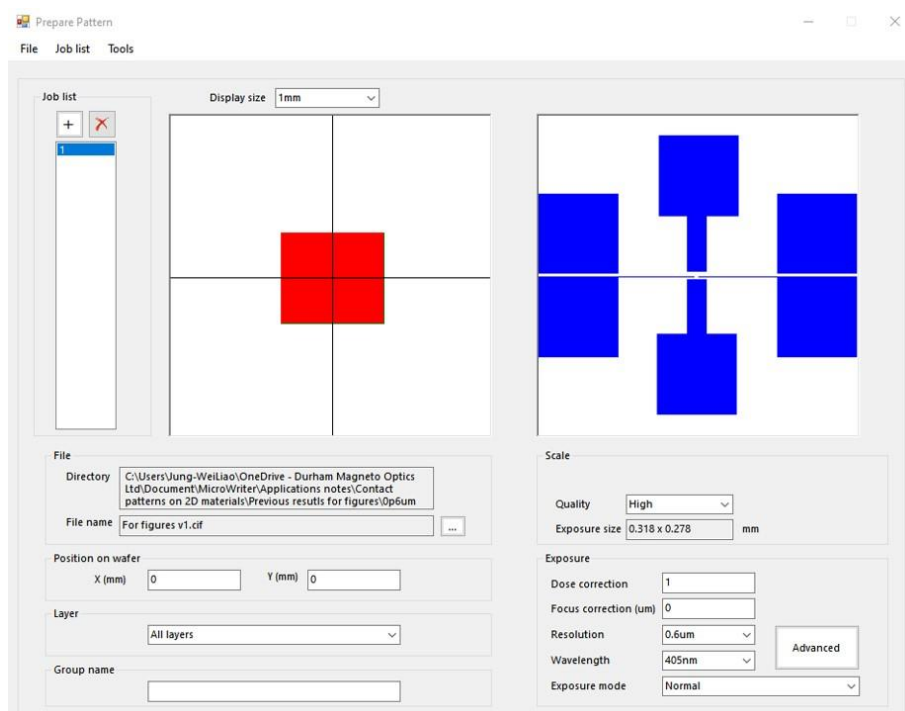

Figure 9 Load the .cif file and set up the exposure parameters in the Prepare pattern window.
- a. Load the designed .cif file in the MW3 software (Figure 9):